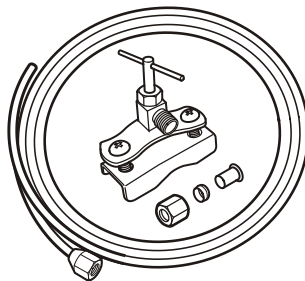

Figure 15
- Use a 1/4" OD copper line to connect the water supply to the solenoid valve. **This is not supplied with the appliance (Figure 15).**